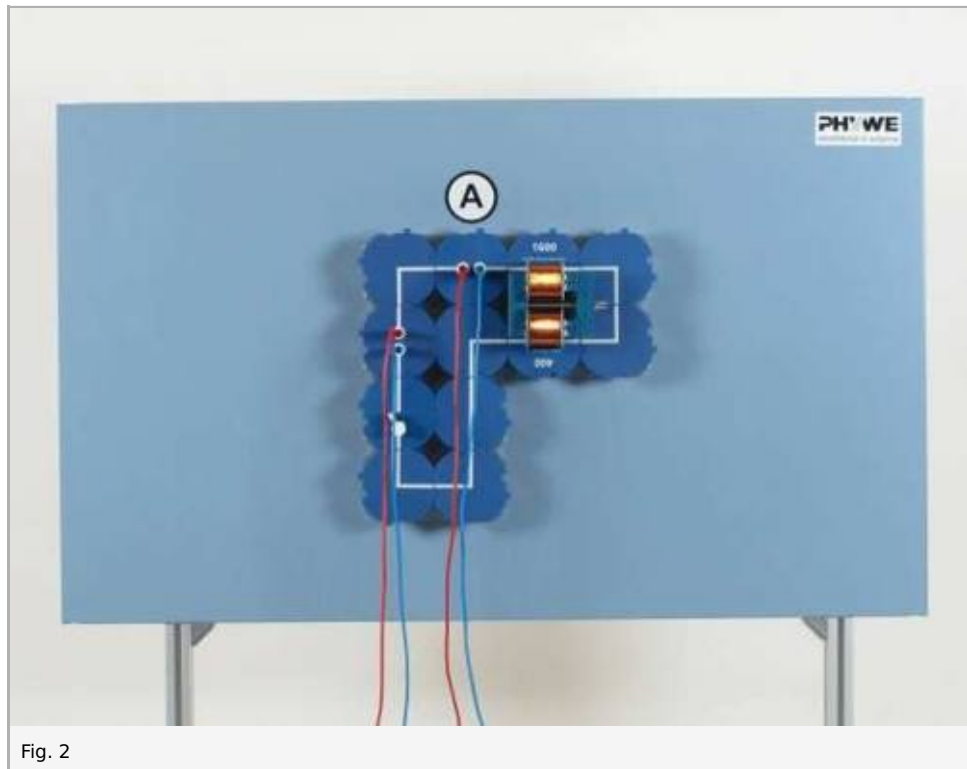

Fig. 2
- Set up the experiment as shown in Fig. 2, set the 10 mA~ measurement range